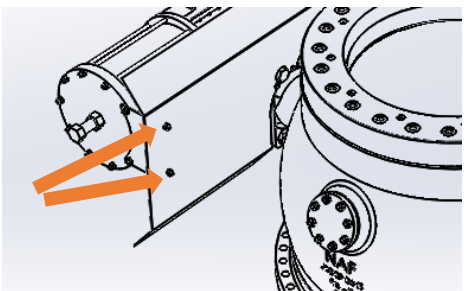

Figure 3: Removing the heat shield
1. Remove heat shield (65) by removing the 4 pcs screws indicated in Figure 3. Be careful when last set of fasteners are removed.
2. Use a marker/pencil and mark a line on both jammer plate (22) and actuator (101). This line will help later getting the actuator back to the same position.